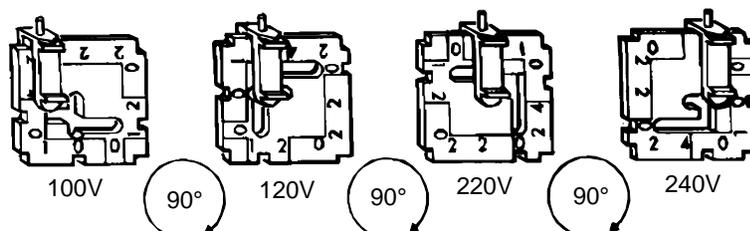

Figure 4-3
4. Orient the card so that you can read the desired voltage at the bottom of the card (Figure 4-3).